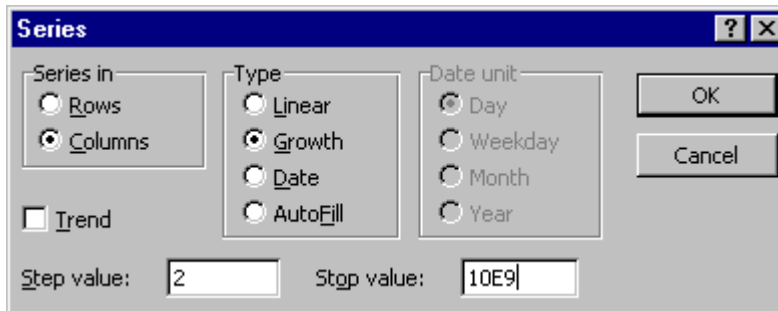

FIGURE 11:
21. Under column FREQUENCY we want a log type scale. As an example, in the Cell D13 enter 1. Move the mouse to the lower right corner until it changes to a black plus sign. Hold down the right mouse button and drag down the column as far as you want to go. Release the right mouse button and a drop-down menu appears. Select the option "series". See Figure 11. Follow the selections shown in Figure 11. Highlight the column label E and select FORMAT/ CELLS. Choose the NUMBER tab and select SCIENTIFIC. The result is shown in Figure 12.